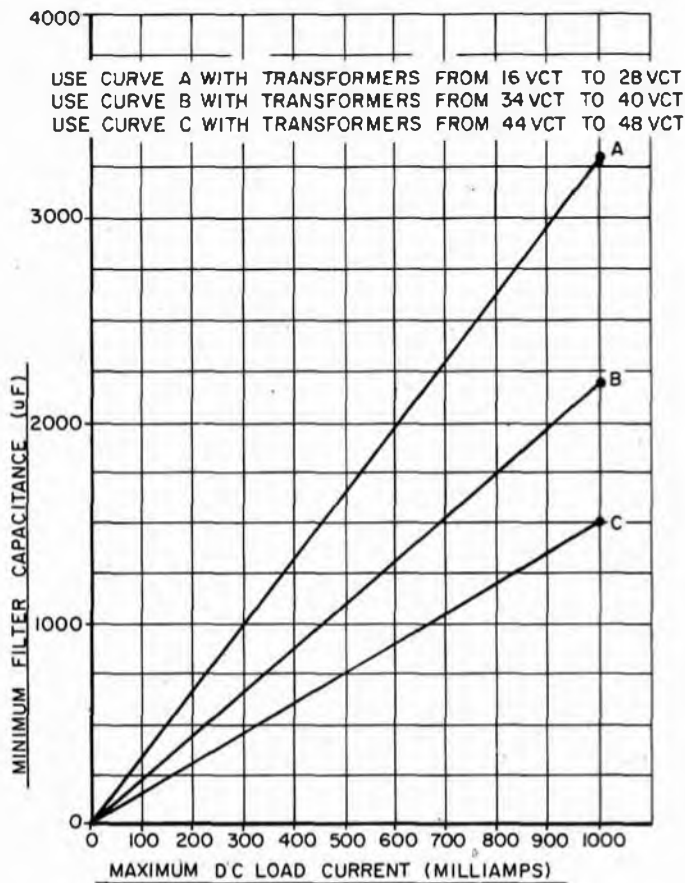

Fig. 5. After consulting fig. 4 for the voltage rating, use this graph to determine the correct capacitance for capacitor C1.
Figure 4 reveals that filter capacitor C1's working voltage should lie between 40 and 60-volts. Turning to Figure 5, and using line "B," we find the minimum capacitance to be about 750- $\mu$ F. The nearest commercial unit turns out to be 1000- $\mu$ F @ 50 volts. You can use more capacitance if desired.
**Some Basic Building Blocks.** Circuit diagrams for these three basic multivibrators are surprisingly similar. They're all built from the same basic building blocks. These building blocks are shown in Fig. 5.